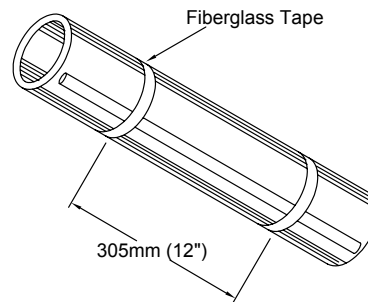

Figure 5
- 2) Aluminum foil tape should only be used if specified by design. The foil is most often used on plastic pipe to offset the insulate effect of the plastic. See the Nelson Heat Tracing Systems' Design Guide for details. See Figure 5 above.